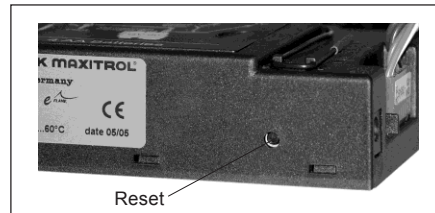

Figure 8: Receiver with Reset button
2. Press and hold the receiver's reset button until you hear two (2) acoustic signals. After the second longer acoustic signal, release the reset button and within the subsequent 20 seconds, press the  (down arrow) on the remote handset until you hear an additional long acoustic signal confirming the new code is set (see figure 8).